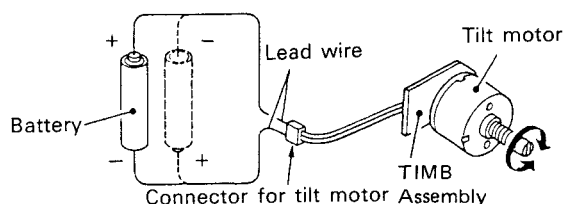

Fig. 10-2-4
Another way to rotate the worm gear is connecting a 1.5V battery to the connector of tilt motor as shown in Fig. 10-2-4.
- ② Search out frame #17000 and measure the DC voltage supplied to the focus coil.
- ③ Search out frame #100 and measure the DC voltage supplied to the focus coil as above. Make sure that the difference between the DC voltages measured in ② above and here in ③ is within $\pm 90\text{mV}$.
- ④ When the specified voltage can not be obtained, connect the lead wire to the tilt motor connector and rotate the worm gear by battery so that DC voltage at frame #100 and #17000 becomes equal. (Refer to Fig. 10-2-4 of "Preparations" on Page 73).
- ① Set TRKG servo loop to CLOSE.
- ② Search out frame #18914.